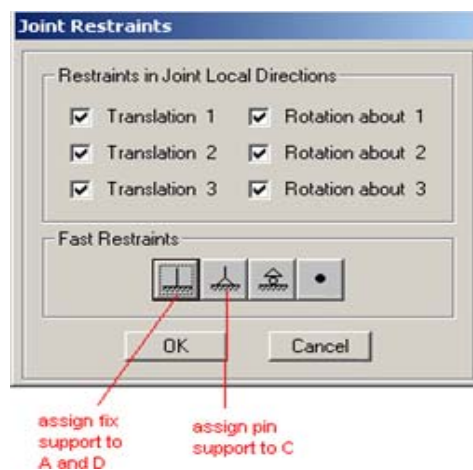

Figure 5
e) Support Conditions: To add or change the supports conditions, click on the grid point where the support is and choose **Joint** under the **Assign** menu, and select **Restraints** (Fig 5).